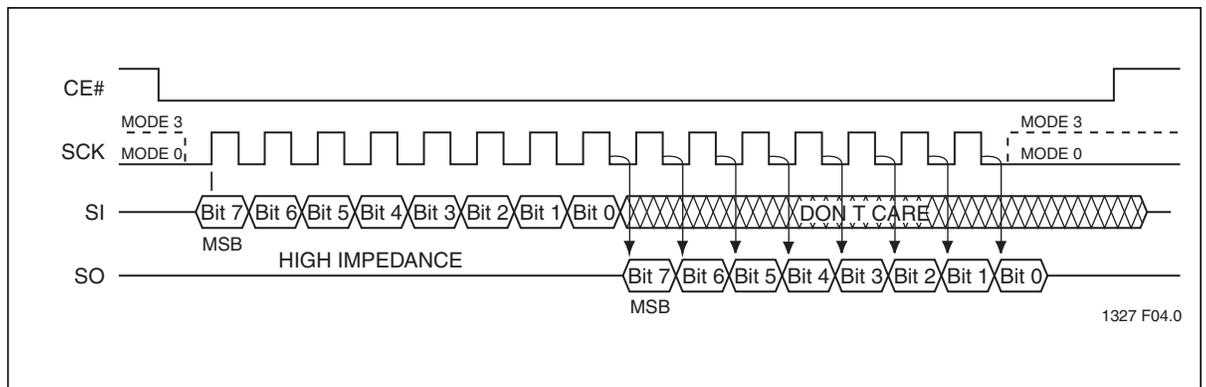

Figure 3: SPI Protocol
The SST25VF032B supports both Mode 0 (0,0) and Mode 3 (1,1) of SPI bus operations. The difference between the two modes, as shown in Figure 3, is the state of the SCK signal when the bus master is in Stand-by mode and no data is being transferred. The SCK signal is low for Mode 0 and SCK signal is high for Mode 3. For both modes, the Serial Data In (SI) is sampled at the rising edge of the SCK clock signal and the Serial Data Output (SO) is driven after the falling edge of the SCK clock signal.